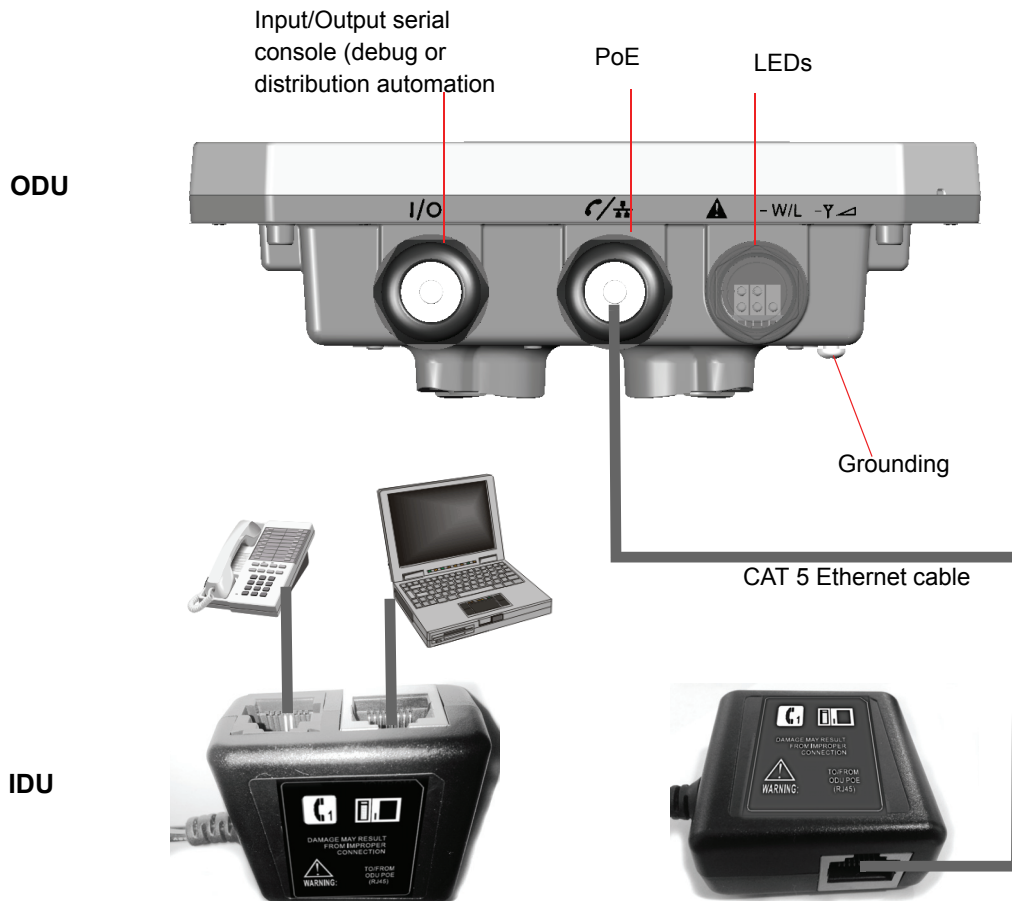

Figure 4: CPE Connections
- 2 Connect the other end of the IDU-ODU cable to the single connector on the IDU, labeled "TO/FROM ODU PoE (RJ45)" (see Figure 4).
- 4 Connect the other end of the Ethernet cable to the IDU port, labeled with a computer illustration (see Figure 4).
- 5 Use a telephone cable to connect a phone to the connector labeled with a telephone illustration (see Figure 4)